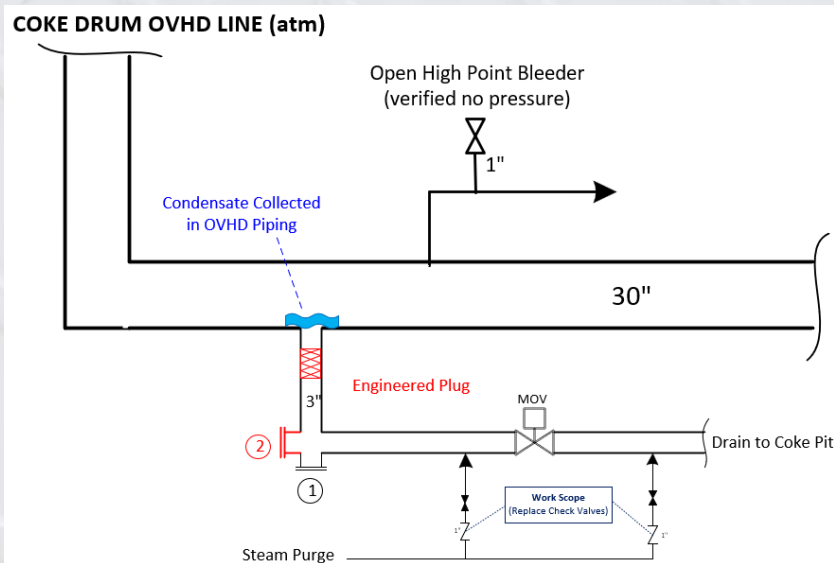

Figure 1
“THE REST OF THE STORY”: On September 16, 2025, an engineered plug was installed on a 3"-line branching from the bottom of the 30" coke drum overhead line. The plug was used to isolate the line for hot work to replace two check valves. Prior to installation, cold condensate was observed dripping from the open flange. Operations personnel walked the line again to verify isolation before starting work. A high-point bleeder was left open to verify the 30" line was not pressurized. On September 17, following the completion of the check valve installation, the contractors began the process to remove the plug. The plug contains a vent line used to monitor pressure buildup upstream of the plug. The contractor's practice is to run a wire through the vent line to ensure there is nothing obstructing the vent line. After using the wire and verifying nothing was discharged from the vent line, the contractor proceeded to loosen and remove the plug by sliding it down the vertical pipe. Unbeknownst to the contractors, a 150-pound steam purge was leaking by, resulting in a build-up of hot condensate behind the plug. As the plug moved downward, condensate discharged from the open flange 2 (see Figure 1) and burned the contractor. Two potential explanations exist for why the vent line did not drain the hot condensate upstream of the plug: (1) a mixture of water and coke fines may have clogged the plug's vent and seals, and/or (2) a vacuum created by the coke drum's natural draft may have retained the condensate in the line until the plug was removed.